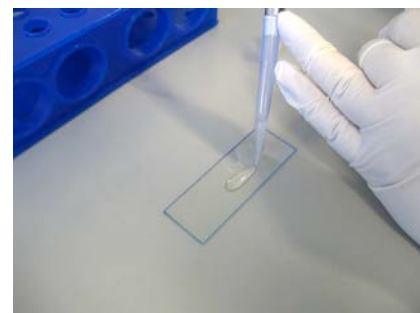

Fig. 1 Using a P1000 pipette tip streak cold CyGEL Sustain™ along the slide for the length of a coverslip
4. Transfer 250ul of CyGEL Sustain™/cell suspension into a cold P1000 pipette tip. Quickly dispense onto a clean slide by streaking along the surface for the length of coverslip to be applied (see fig. 1). Repeat the process for the remaining CyGEL Sustain™/cell suspension – giving two microscope slide preparations.